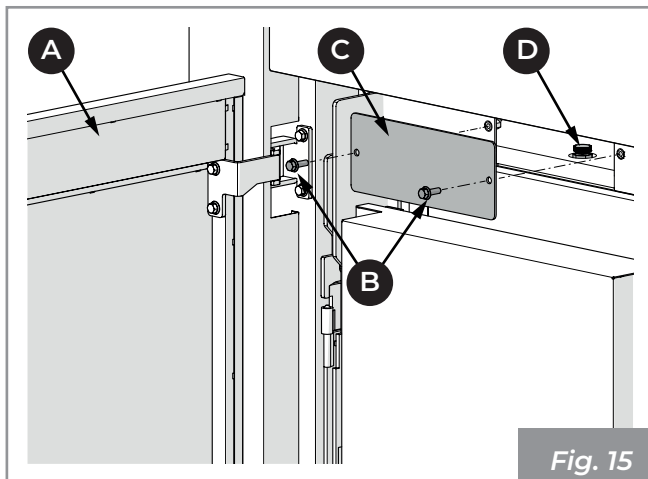

Fig. 15
- open the door (A), unscrew the two screws (B) and remove the cover (C) to access the relief valve (D), if it is necessary to eliminate the air present in the boiler during the loading phase of the system (Fig. 15).